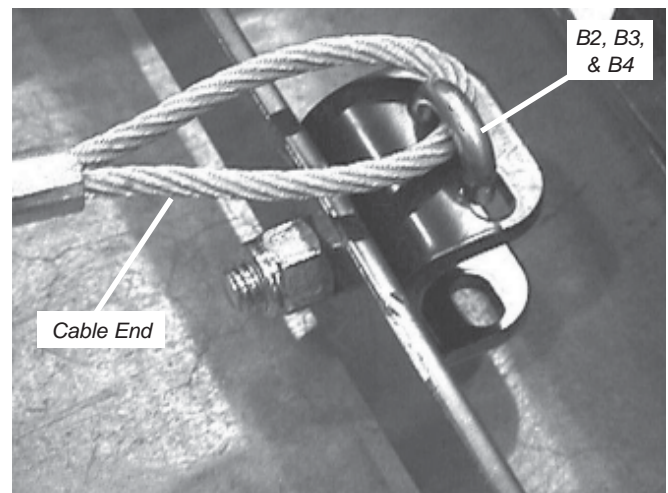

Figure 6 J-bolt and Winch Cable
10. Run the winch cable over the roller fairlead and down to the J-bolt bracket (A3). Using a 1/4" dia J-bolt (A3), hook the loop on the end of the winch cable and slide the threaded end of the J-bolt through the round holes in the J-bolt bracket. The hook end of the J-bolt should slide into the slotted hole in the J-bolt bracket. Terminate the end of the J-bolt with a 1/4" dia flat washer (B3) and 1/4" dia nylock nut (B4). Tighten the nut until the winch cable is snug inside the J-bolt as shown in figure 6.